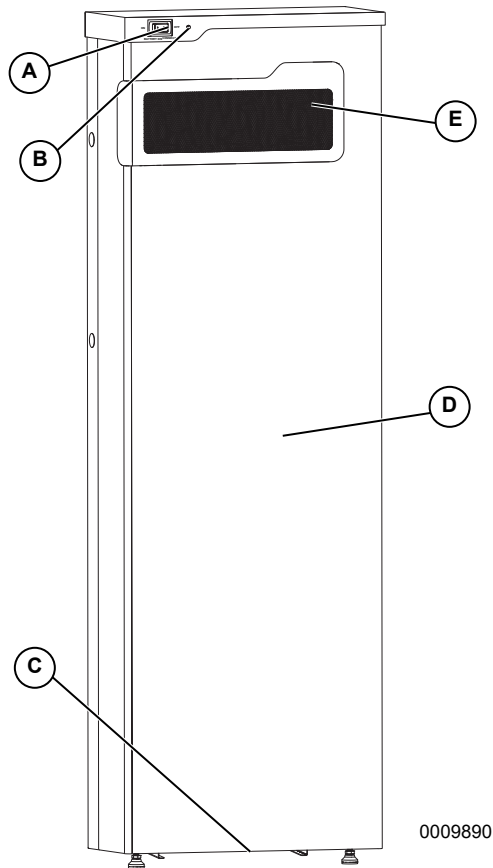

Figure 2-4. Component Locations
See **Figure 2-4**. Battery Disconnect switch (A) disconnects the battery string from the battery monitoring system (BMS) electronics.
See **Figure 2-4**. The color and strobing interval of LED (B) communicates battery status.